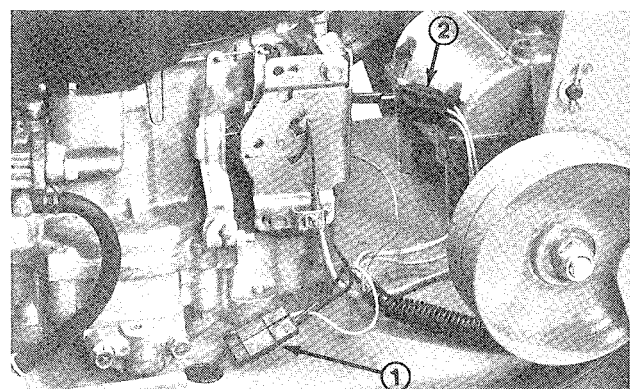

Figure 6
1. Secure clutch and engine in-line wire connectors (Fig. 6).